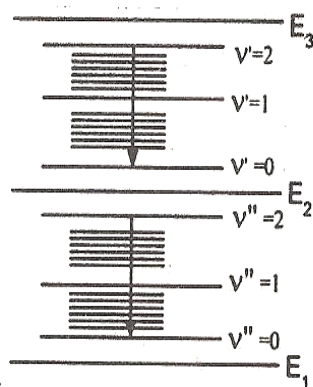

Fig. 3.10
- (1) Transitions between vibrational states of the same electronic state (Fig. 3.10.).